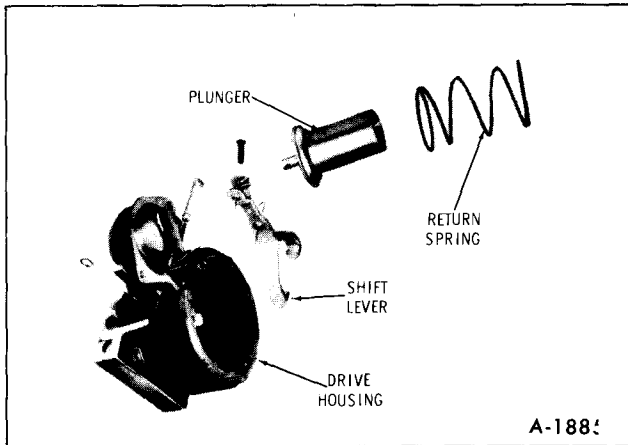

Figure 72—Shift Lever Removal
- b. To remove shift lever and/or plunger, remove shift lever pivot bolt (figure 72).
b. Position shift lever and plunger assembly in drive gear housing and install lever pivot bolt. (figure 72)